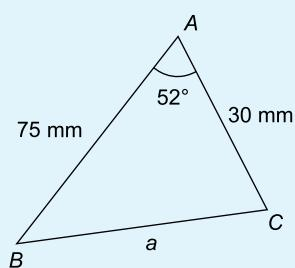

Figure 1.10
8. In the triangle ABC shown in Figure 1.10, side ' a ' is equal to:
9. In the triangle ABC shown in Figure 1.10, angle B is equal to: